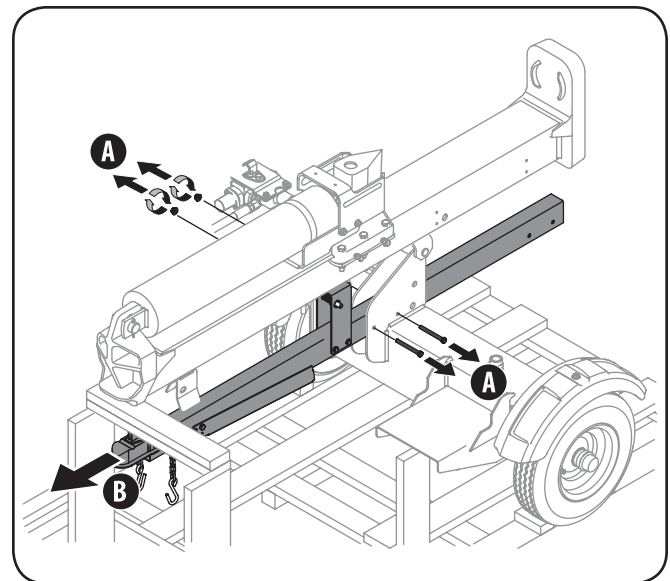
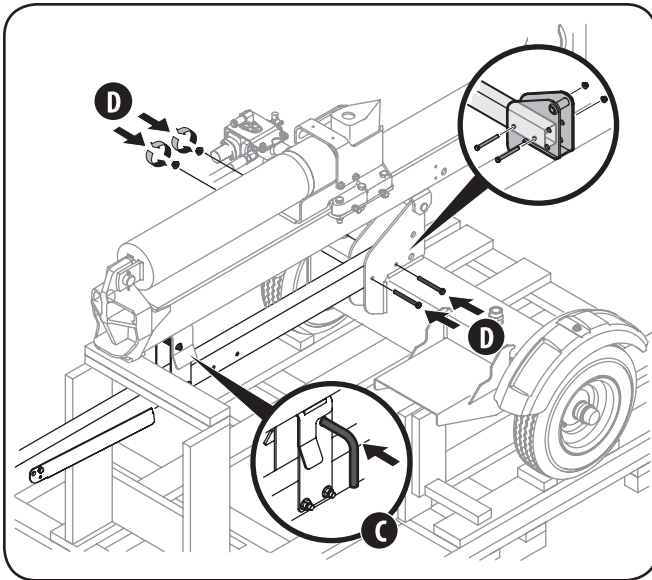

Figure 3-2
Figure 3-3
For shipping purposes, the tongue tube is secured to the log splitter frame near its center. To reposition it, refer to Fig. 3-2 and Fig. 3-3 and proceed as follows:
- C. Pull the beam lock outward, line it up with the hole in the beam bracket and release the beam lock. See Fig 3-3.
- D. Fasten the tongue tube to the frame by reinstalling the two three-inch hex screws removed earlier and tightly securing with the two flange lock nuts. See Fig. 3-3.